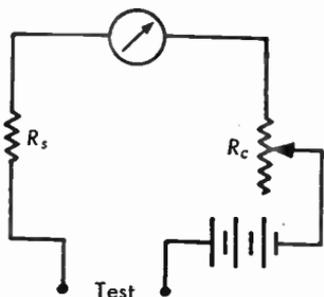

Fig. 12.05 Ohmmeter, consisting of an ammeter and series resistors.
12.05 A 0–1 milliammeter is used to make an ohmmeter as indicated in Figure 12.05. The series resistor R_s is 4000 ohms, the internal resistance of the meter is 100 ohms. What will be an adequate value for the variable calibrating resistor R_c if the voltage of the battery is 4.5 volts, and what will be the part not used in the circuit when the battery is new?